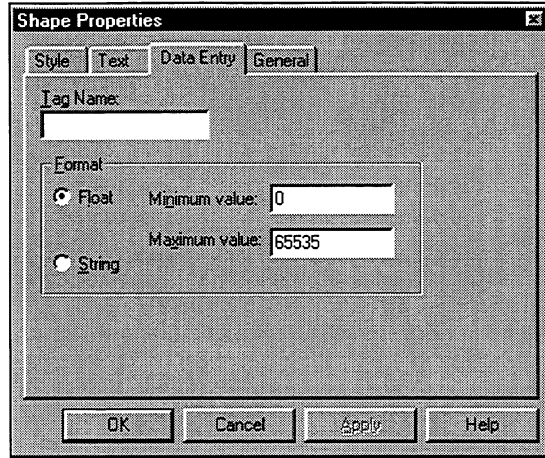

Figure 6-15. Data Entry Properties Page in the Shape Properties Form
4. When you release the left mouse button, the Shape Properties form opens, with the Data Entry page active, as shown in Figure 6-15.